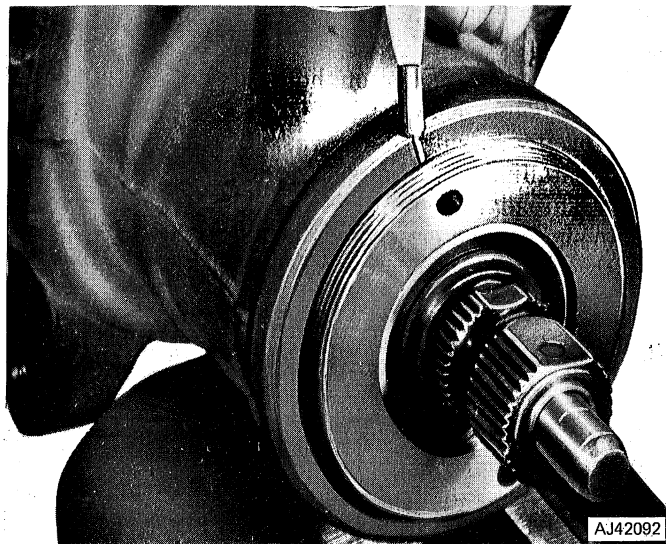

Fig. 2L-40 Marking Housing
(1) Seat adjuster plug in housing using Spanner Wrench J-7624 (fig. 2L-16). Approximately 20 foot-pounds (27 N•m) torque is required to seat plug.
(2) Place index mark on gear housing in line with one of the holes in adjuster plug (fig. 2L-40).
(3) Measure back (counterclockwise) 1/2 inch (13 mm) from first index mark and remark housing (fig. 2L-41).
(4) Turn adjuster plug counterclockwise and align adjuster plug hole with second mark made on housing.
(5) Install adjuster plug locknut. Place spanner wrench on adjuster plug to prevent it from turning and tighten locknut to 85 foot-pounds (115 N•m) torque using Tool J-25194. Do not allow the adjuster plug to turn while tightening locknut.
(6) Turn stub shaft clockwise to stop, then turn stub shaft back one-quarter turn.